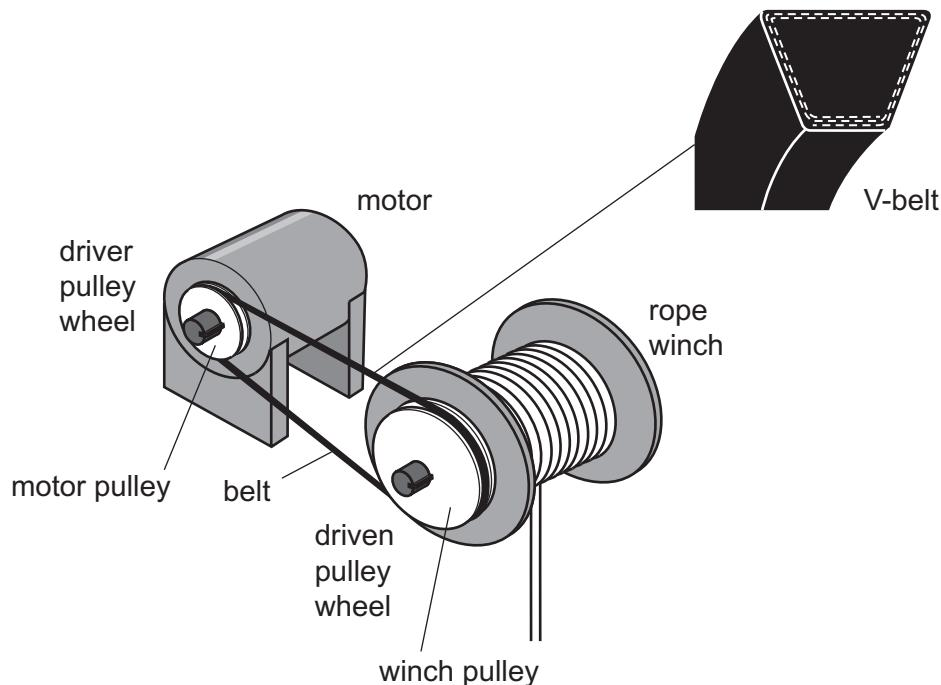

Fig. 3
- (b) Fig. 3 shows a motor used to power a rope winch. The system uses a V-belt as shown.
- (i) Give **one** disadvantage of using the V-belt shown in Fig. 3 compared to using a toothed belt.